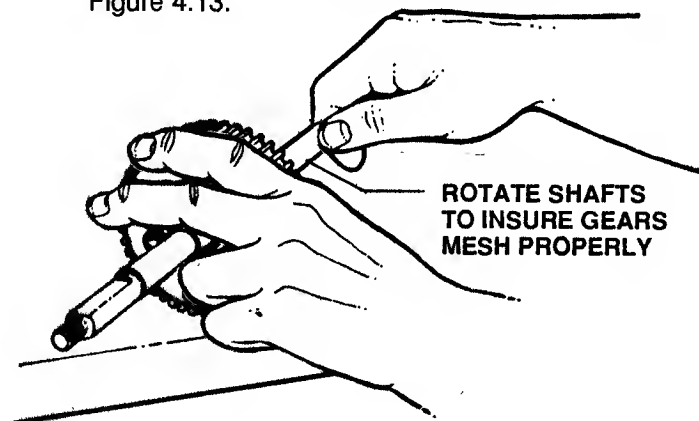

FIGURE 4.13
20. Test rotate shafts to insure gears mesh properly before installing completed bull gear-axle assembly in transmission housing. See Figure 4.13.